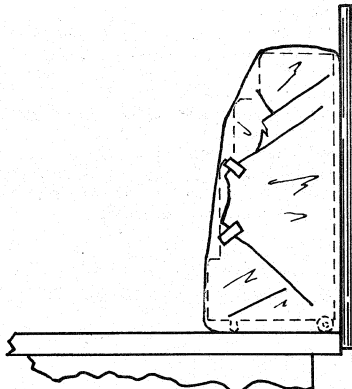

Figure 2
3. Stand the wrapped Flexowriter on its tilt posts at the edge of a table, positioning it so the pallet is off the edge of the table (Figure 2).